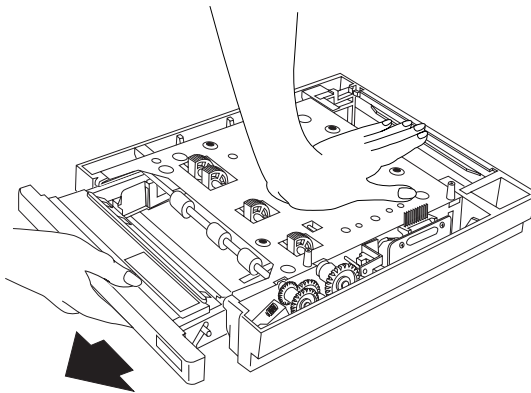

Fig. 4.2 Remove Tray from Feeder Cassette
2. Place the feeder tray on a stable, horizontal surface and remove the cassette from the feeder tray as shown in figure 4.2.
Make sure your hands are placed as shown in figure 4.2 and the feeder tray assembly rests on a flat surface. If you hold the tray assembly in mid-air and attempt to remove the cassette, you will catch your hand between the feeder tray and the cassette.